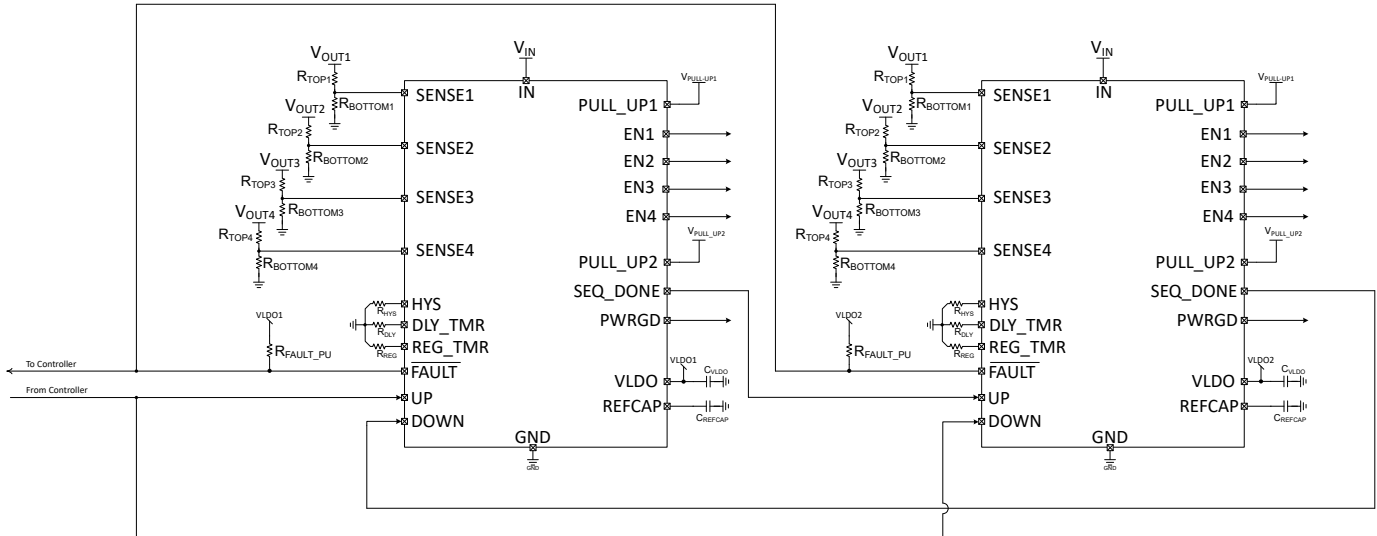

Figure 8-13. Daisy Chain Configuration
The TPS7H3014 incorporates four input channels to sequence/monitor up to four voltage rails. However, in the case where more than four channels are needed in the application, multiple devices can be daisy chained as needed. The daisy chain configuration is shown in Figure 8-13. In this case, only two devices are shown, however multiple IC can be configured as needed by the application.
3. PULL_UP2, which is the input supply to program the output voltage high (V_{OH}) of PWRGD and SEQ_DONE outputs. These outputs are typically connected to the system controller (typically an FPGA or ASIC) and/or to the house-keeping controller. In daisy chain configurations, SEQ_DONE is connected to UP of subsequent TPS7H3014 I.C. as shown in Figure 8-13. It is recommended to decouple this power supply with at least 1μF as close to the pin as possible. In this application, the V_{PULL_UP1} = 3.3V. This is a typical voltage of controller I/Os.